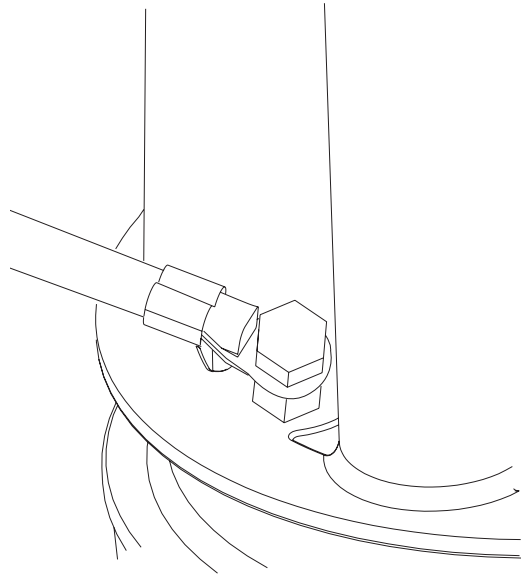

Figure 24
- Step 1:** Apply a thin coat of lubricant retained previously to the threads of a solid, two-piece, nonvented grounding plug (Figure 24).